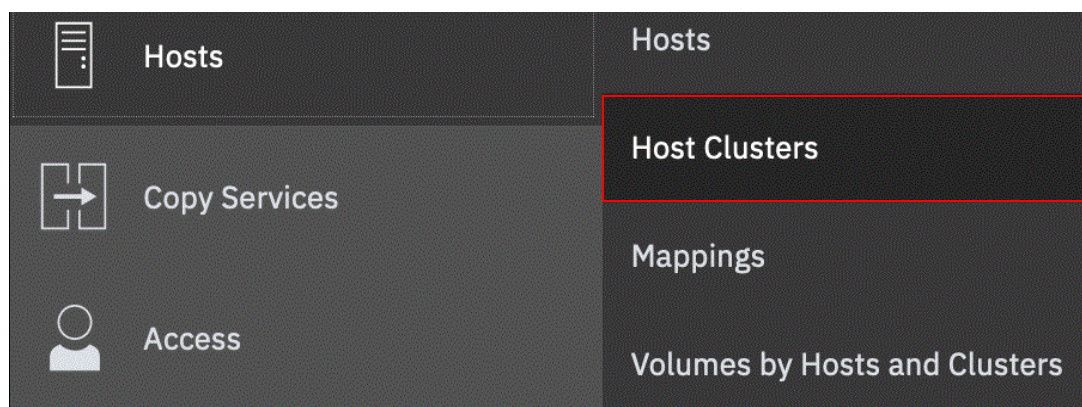

Figure 7-31 Host clusters menu
1. From the menu on the left, select **Hosts** → **Host Clusters** (see Figure 7-31).